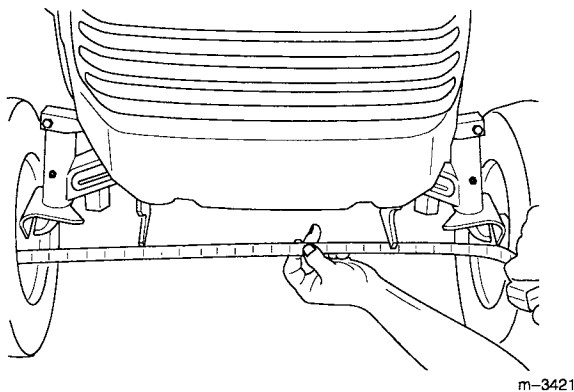

Figure 39
Maintaining correct front wheel toe-in is important for safety, Smart Turn™ Steering operation, and ease of use. If uneven tire wear, lawn scuffing or hard steering develop, adjustment may be required. Check the toe-in after every 100 operating hours or once a year, whichever occurs first (Fig. 39).
4. Measure the distance between both of the front tires at spindle level (at the front and rear of the wheels) (Fig. 39).